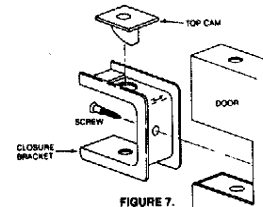

FIGURE 7.
- Insert a top nylon cam into the upper and lower door hinge closure bracket as illustrated so that cam base is flush with inner bracket surfaces. See figure 7.
- Insert each door hinge closure bracket (with top cam in place) into the upper and lower openings in the door, anchoring with #10x1" screw. See figure 7.